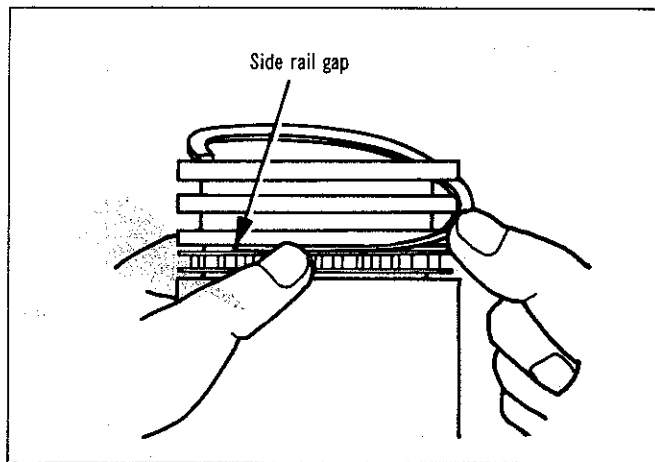

Fig. 56—Fitting oil ring side rail
(11) Install the piston rings in the following order:
- Fit one end of the oil ring top side rail into the groove and "peel" the ring into the groove. (Refer Fig. 56). Fit the lower side rail in a similar manner.